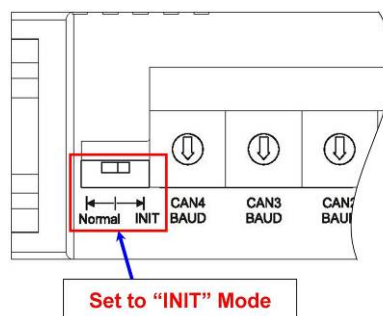

Figure 3-3 Set the I-2534 into the initial mode
Step1: Set the Normal / Initial mode switch to the "INIT" position. The figure 3-3 and 3-4 show the detail.